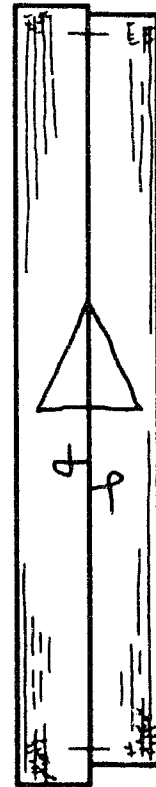

Fig. 3
- Now do the same thing for the vertical members. Put the inside edges together, mark the lengths and put the triangular sign, again pointing upwards (Fig. 3).